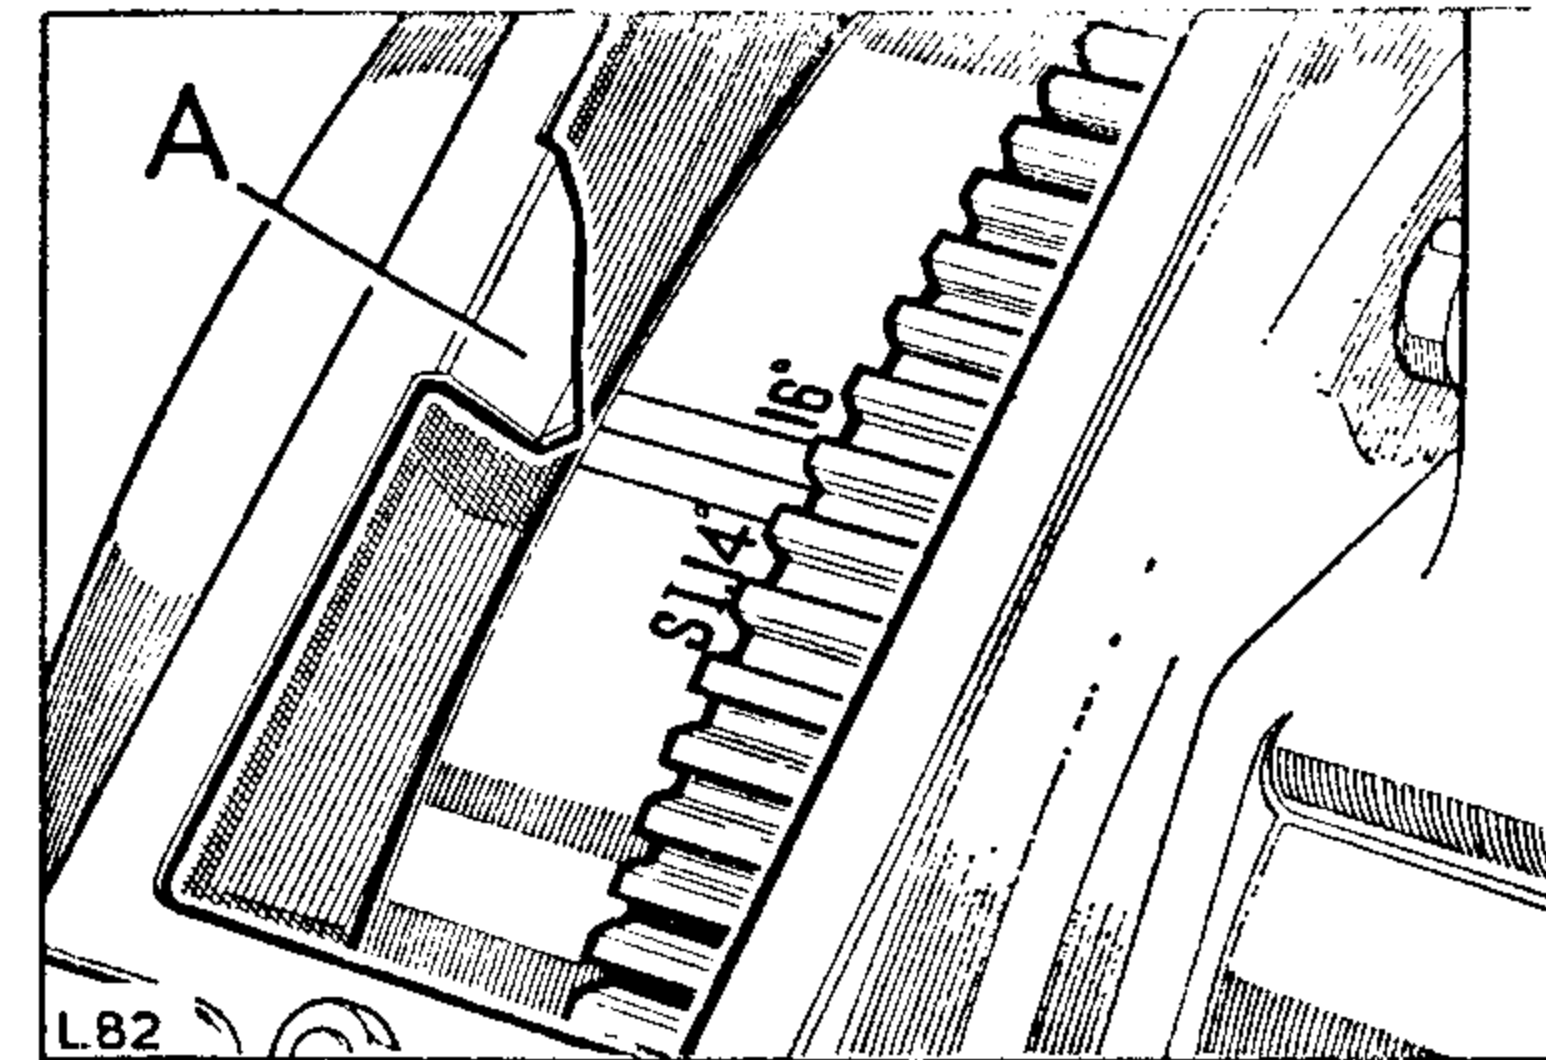

Fig. 26. Timing marks on flywheel
1. Turn the crankshaft in the direction of rotation until both valves of number one cylinder are closed and the piston is ascending the bore on the compression stroke. Continue to turn the crankshaft slowly until the pointer (A) Fig. 26 is midway between the 14° and 16° marks, that is 15° before top dead centre. This must be done carefully. If the flywheel is inadvertently turned too far and the timing mark goes past the pointer, do not turn the flywheel back, but repeat the above operation.